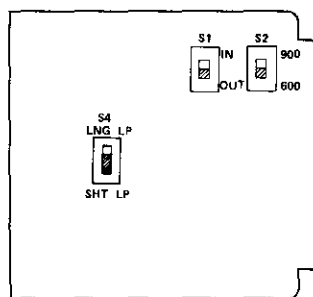

figure 5. 6205 switch options
3.05 Four option switches (all of which are two-position slide switches) must be set before the 6205 is placed into service. Three of these switches are located on the printed circuit board as shown in figure 5. The fourth switch is the *norm/test* switch on the module's front panel (see paragraph 2.04). Paragraphs 3.06 through 3.09 describe each switch in detail.